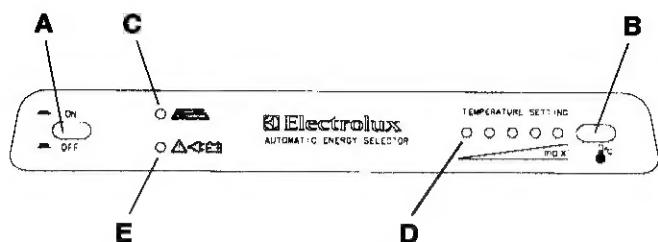

FIG. 1
The control panel is shown in fig. 1.
All references are to fig. 1.
WARNING: It is not allowed to have a naked flame at a gas filling station. If you are not sure, that your stop is shorter than 15 min., you are advised to switch off the main switch (A), fig. 1, when stopping at a filling station.
The AES system is designed to guarantee the maximum cooling efficiency under any circumstances. Therefore, the system monitors continuously the voltage level while being in either 12 V DC or 240 V AC mode. If the voltage is too low, the system switches to Gas mode shown by the yellow LED (E in fig. 1.). The system stays in Gas mode, until the electrical supply voltage has recovered to normal level.
The position number refers to fig.1.
1. Set the switch (A), fig. 1, to "OFF".